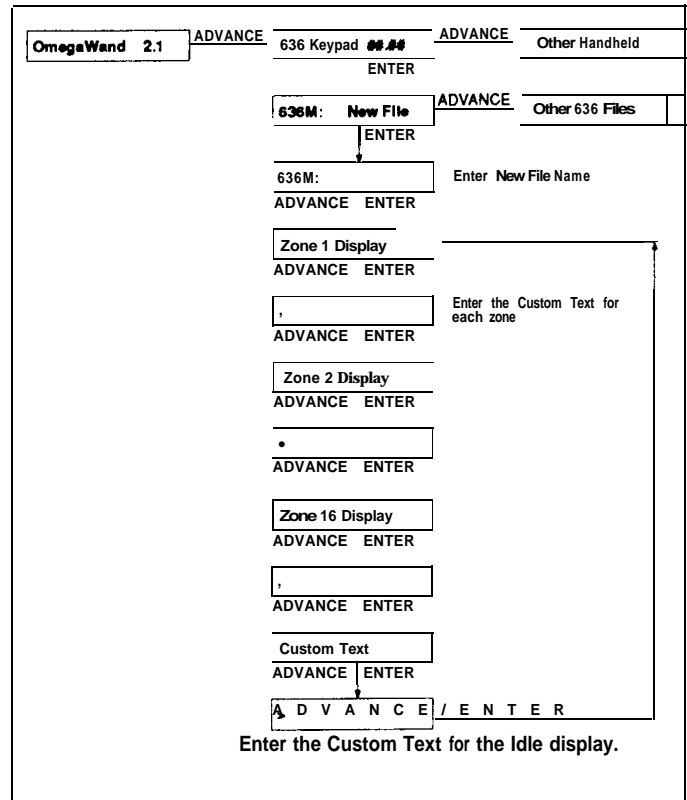

Figure 8: D636A Programming
- 10.4 Access the Handier as shown in Figure 8.